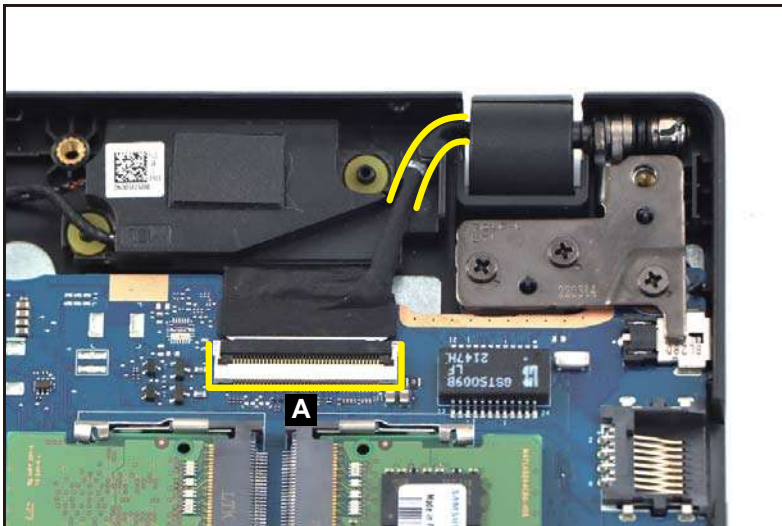

Figure 3-113. Replacing the LCD Module
4. Route the LCD cable through the cable guides. Then connect the cable to the mainboard connector (A) (Figure 3-113).